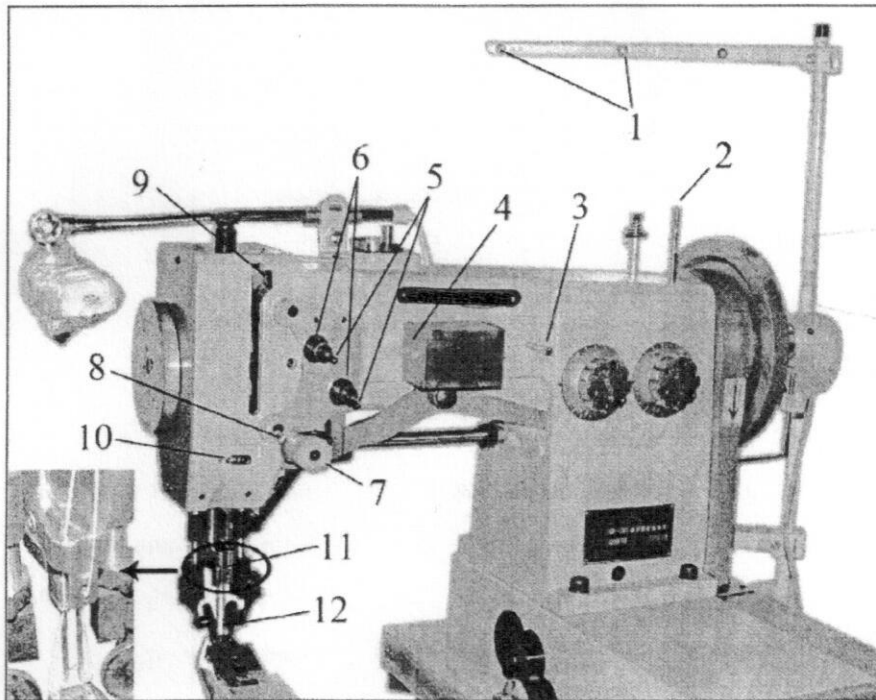

Fig.2
- Threading the needle thread by the path indicated in Fig.2
(1)Thread wheel holder (2)Threading rod (3)Threading rod (4)Oil box (5)Threading rod (6)Tightener (7)Threading wheel (8)Take-up leaf (9)Take-up lever (10)Threading ring (11)Needle holder (12)Needle